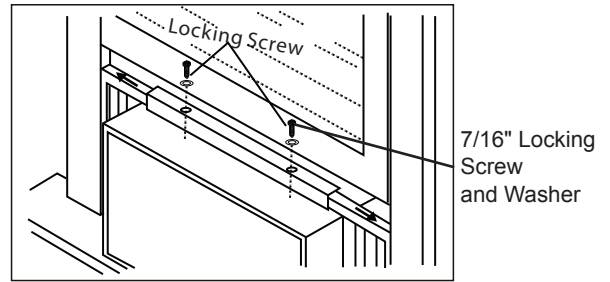

Fig. 15
1. Carefully raise window to expose filler panel locking screws. Loosen screws so filler panels slide easily. (See Fig. 15.)
2. Extend panels to fill window opening completely. Tighten locking screws on top. (See Fig. 15.)